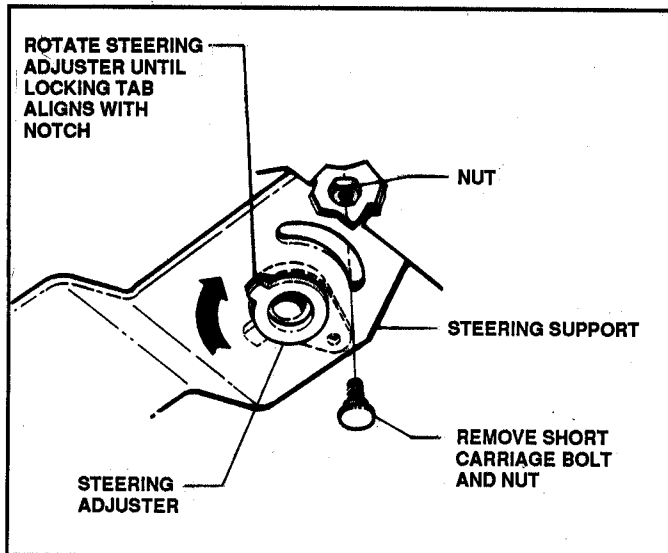

FIGURE 5.7
- (6) Check all shim washers for wear. Replace if worn.
- (7) Reassemble components in reverse order.
- (8) If required, the steering adjuster can be removed/replaced by first removing the short carriage bolt and nut, then rotating the steering adjuster until the locking tab is aligned with the notch in the steering support. Lift the steering adjuster out and replace with new part. See Figure 5.7.